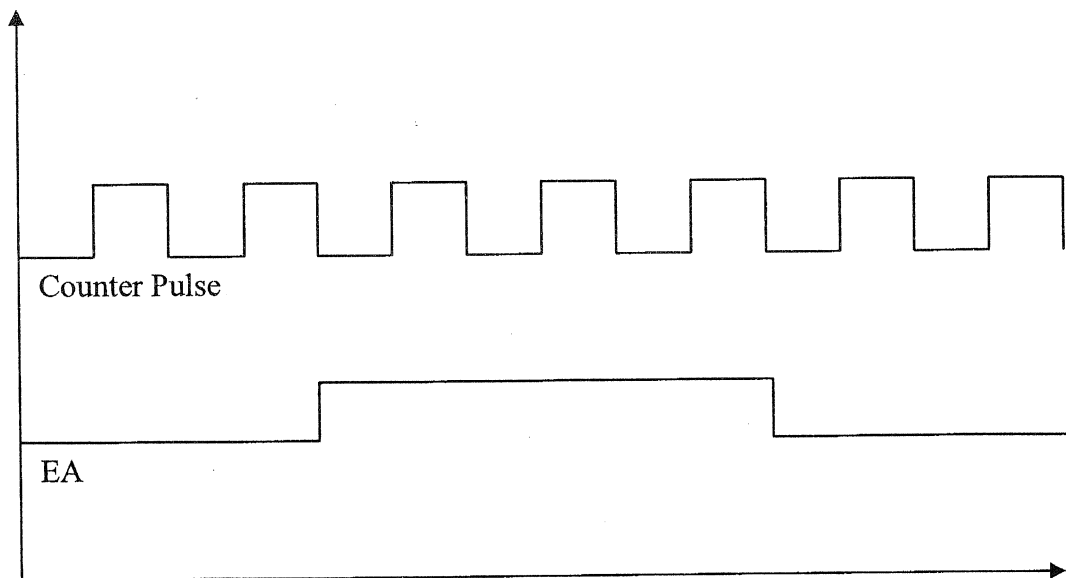

Figure 4.1
A poly bag manufacturing company consults you as an engineer to measure the weight of the manufactured poly bags. The machine has a metal roller and newly made poly bags revolve along with the metal roller and weight of the metal roller is 5kg. The weight measuring transducer gives following output wave pattern (Figure 4.1) and you need to count the number of pulses received when the enable signal (EA) goes high. This counter value is equal to the weight of the poly bags with the metal roller in kilograms.